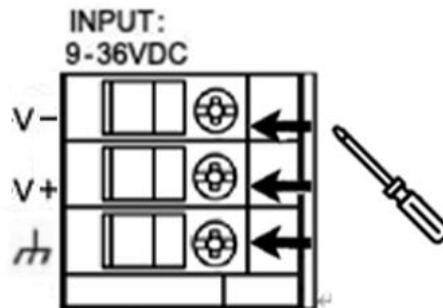

Figure 2.5: Wire-Clamp Screws on the Side Panel
- Step 2 Tighten the wire-clamp screws to prevent the wires from loosening, as shown below in Figure 2.5.